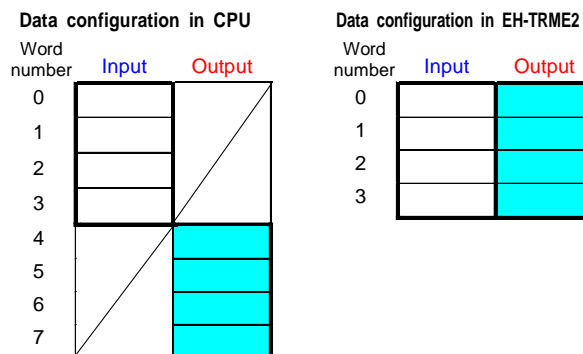

Figure 4.3.10 Data configuration with I/O assignment “X4Y4W”
- 2) One channel consists from 16 bits (1 word) input. In the case of I/O assignment for master module is “X8W”, I/O number of slot that master module mounted is assigned to each channel as shown in Figure 4.3.10.